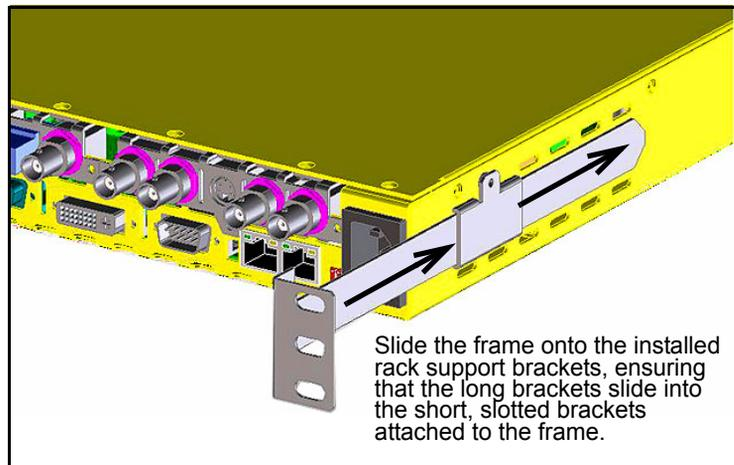

Figure 4-5. Installed Long and Short Rack Support Brackets
- Push the X75HD/X75SD into the front of the rack, ensuring that the rack support brackets slide into the slotted rack supports. (See Figure 4-5.)